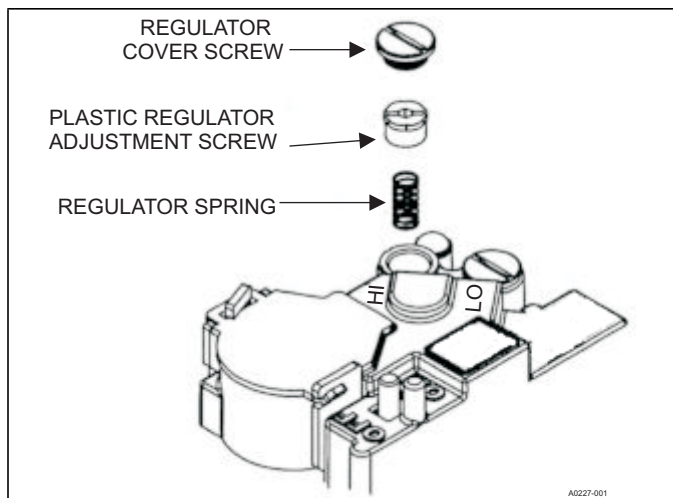

FIGURE 4: High Pressure Regulator Spring
1. Refer to Figures 4 and 5 for location of regulator cover screws and regulator adjustment screws on main gas valve.